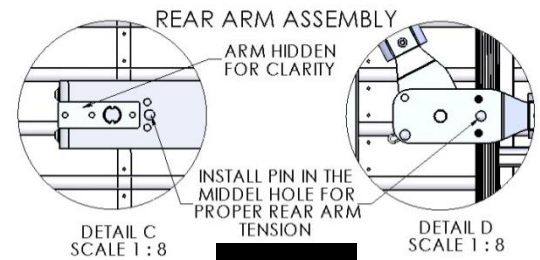

Fig. 7.1
1. The spring pin is installed into the middle hole in the 3-hole pattern at both the pivot assembly and the knuckle. When the arm is rotated up toward the axle, this will be the medium spring tension. See figure 7.1.